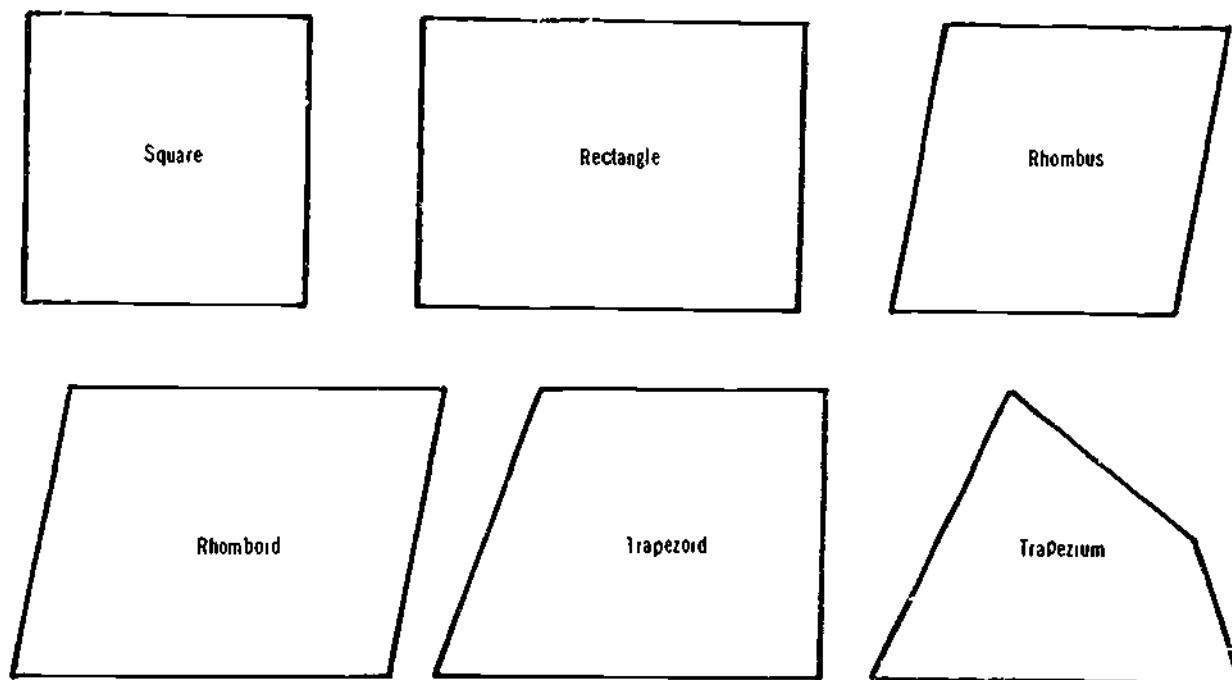

Figure 5-2. Quadrilateral Figures
**Quadrilateral** — any plane figure having four sides that are (1) square, (2)
rectangle, (3) rhombus, (4) rhomboid, (5) trapezoid, (6) trapezium. (See Figure 5-2.)